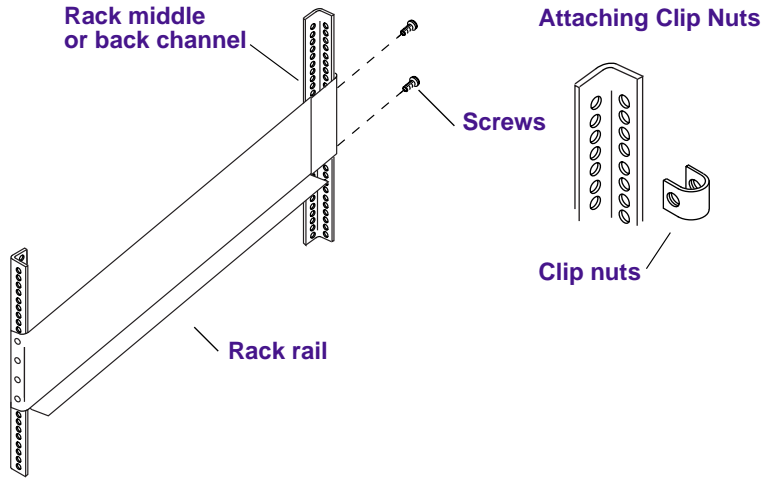

Figure 1-5 Attaching the FCDE Rails to the Rack Middle or Back Channel
If you are installing the rails in a rack that does not have threaded holes, you will also need to locate four clip nuts in the rail kit. Slip the clip nuts over the holes in the rack middle or back channels where you will be installing the screws for the FCDE rails (see Figure 1-5).
8. Loosely attach the rear of each FCDE support rail to the rack middle or back channel with the screws (see Figure 1-5).